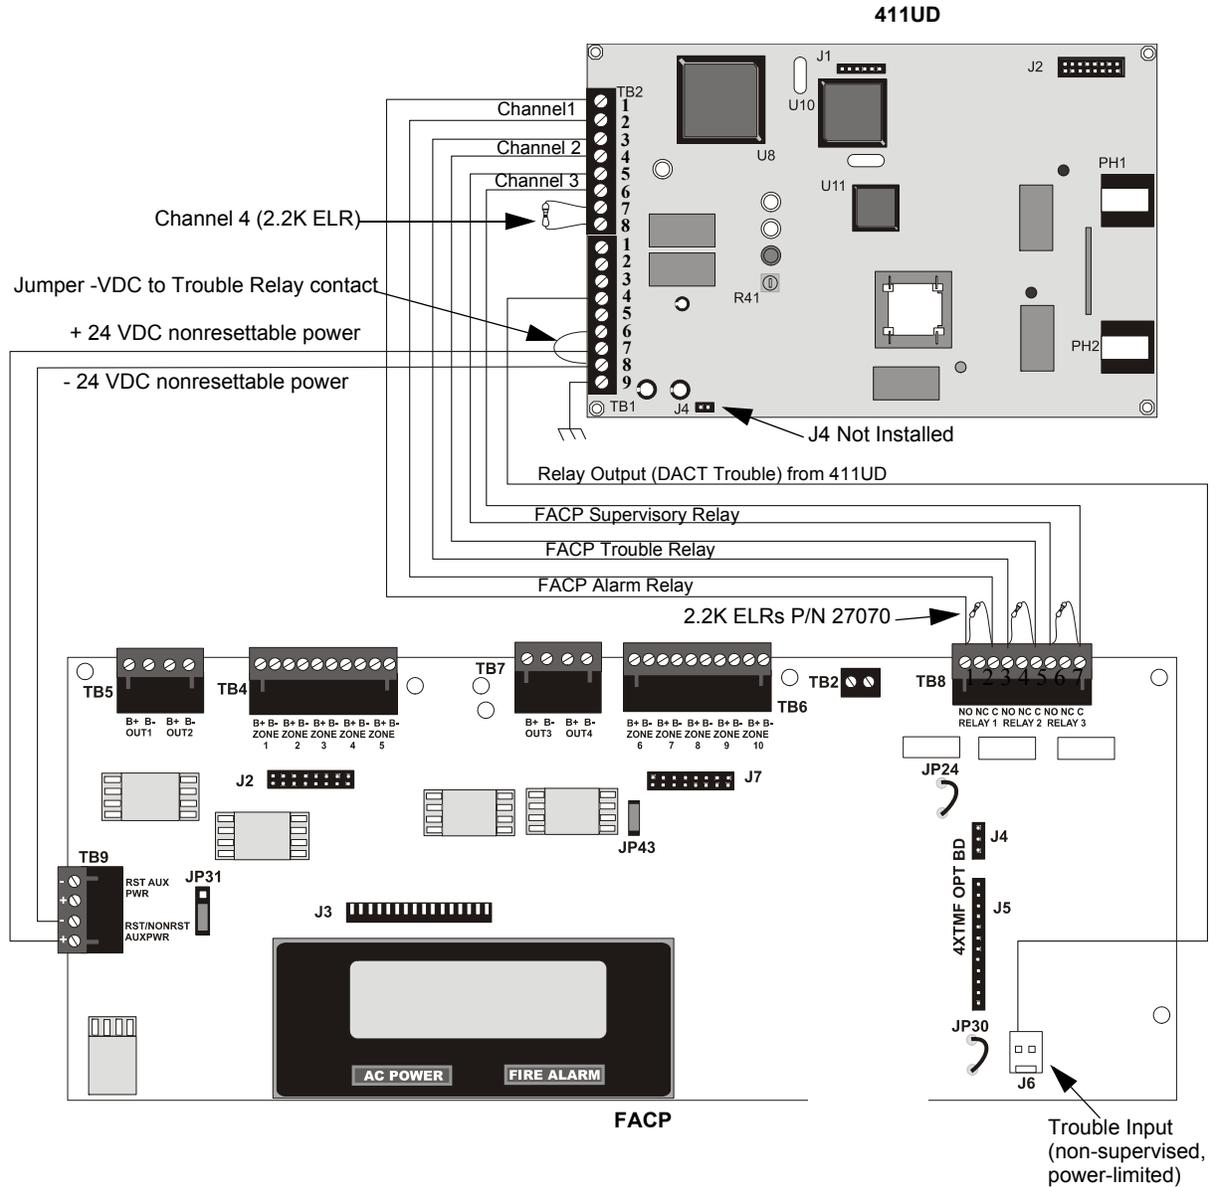

Figure B.1 SFP-5UD/SFP-10UD FACP Connection to 411UD
411UD may be installed as illustrated in Figure B.1, “SFP-5UD/SFP-10UD FACP Connection to 411UD,” on page 119.
5. Any zone of the 411UD can be wired to function as alarm, trouble or supervisory. In Figure B.1 on page 119, Channel 1/Zone 1 is wired to the control panel's alarm relay, Channel 2/Zone 2 is wired to the control panel's trouble relay and Channel 3/Zone 3 is wired to the control panel's supervisory relay